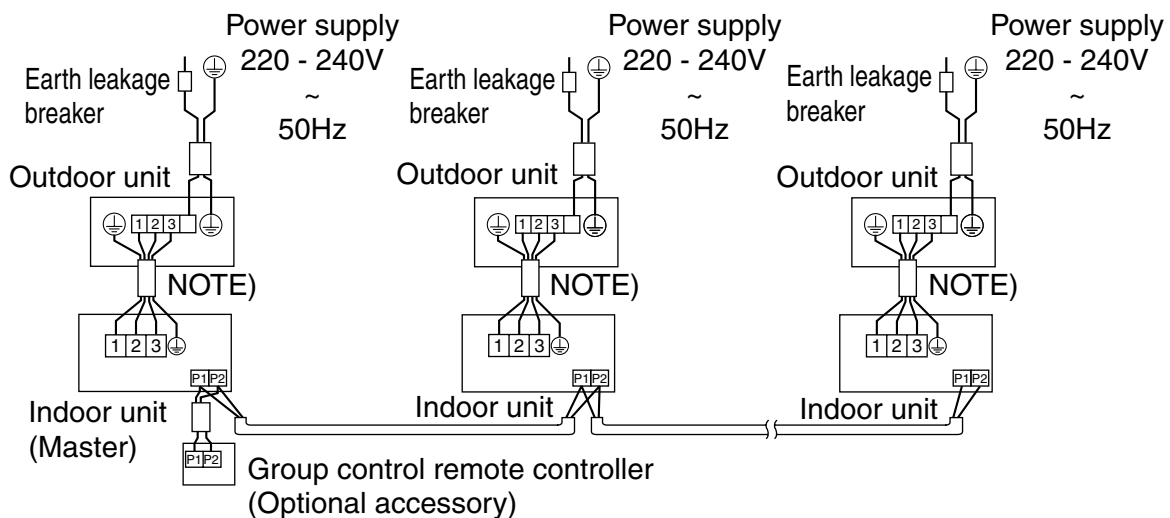

Fig. 33
(All indoor units operate according to the remote controller). **(Refer to Fig. 33)**
- (1) Remove the control box lid. (Refer to “9. HOW TO CONNECT WIRINGS AND WIRING EXAMPLE”.)
- (2) Connect crossover wiring between the terminals (P1, P2) inside the control box for the remote controller. (There is no polarity.) **(Refer to Fig. 33 and Table 3)**